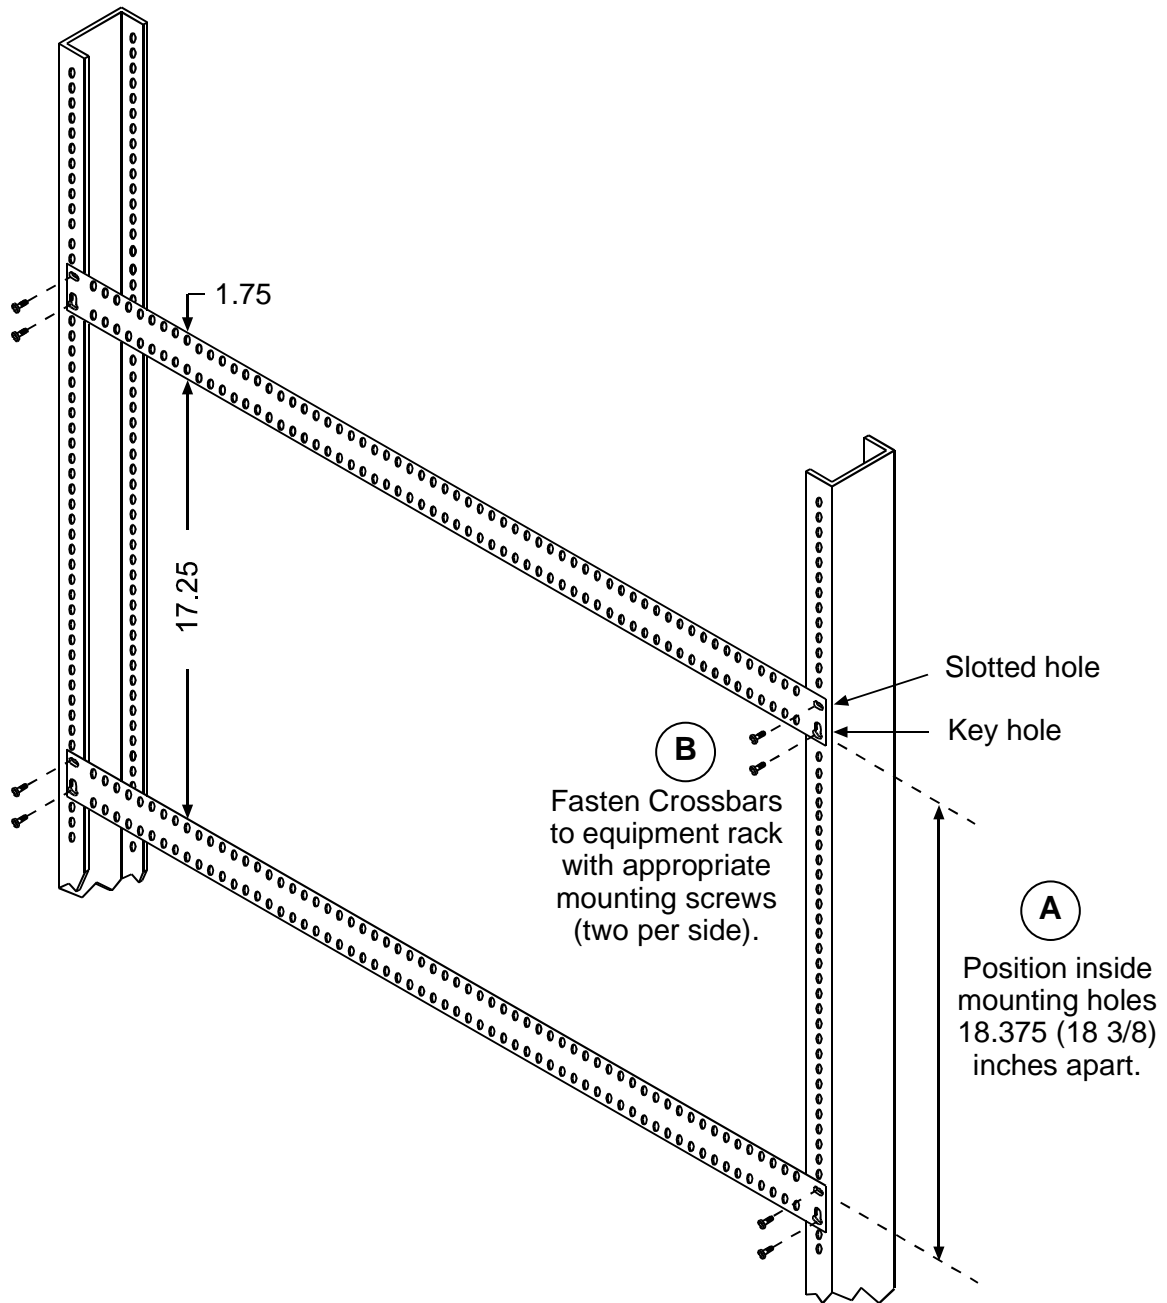

Figure 5-7. Crossbar Installation
1. Position Vertical Mount Crossbars (refer to office records) so that inside mounting holes are 18.375 inches apart (see A in Figure 5-7 on page 5-13).
2. Attach crossbars to equipment rack with appropriate mounting screws (see B in Figure 5-7).